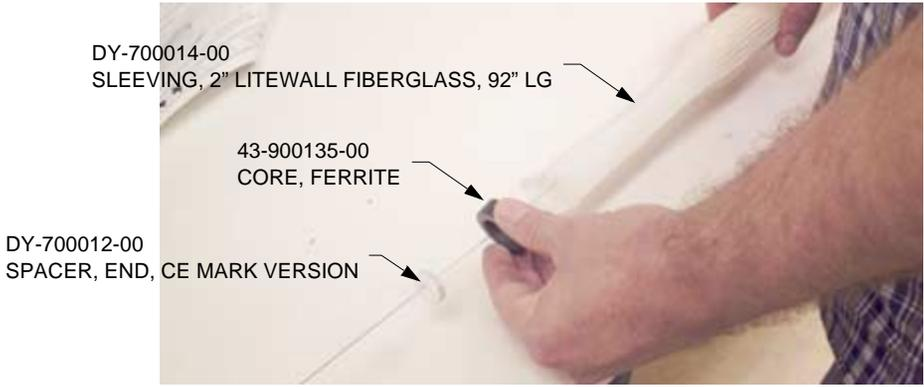

Fig. 1.1.34
1.1.34 Now cut 92" of 2" Fiberglass Sleeve and feed it over the assembly until you have about 3" of excess at both ends. See Fig. 1.1.34 for reference.